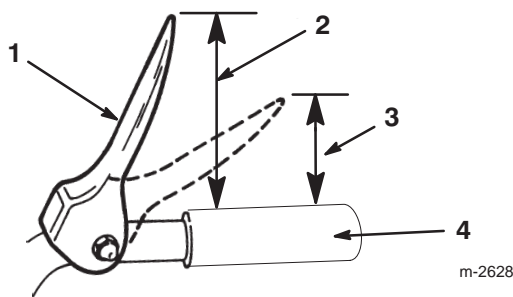

Figure 11
3. Adjust the flange locknut up or down on the upper traction rod until the distance between the top of the handgrip and the bottom of the traction control lever is approximately five inches (12.7 centimeters) as shown in Figure 11.
Note: The adjustment is correct when the wheels stop rolling backward and the distance between the top of the handgrip and the bottom of the traction control lever is three to four inches (7.6 to 10.2 centimeters) as shown in Figure 11.